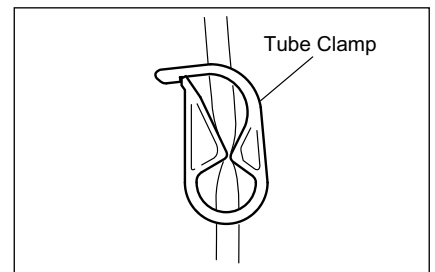

Fig.14
- (1) Close the tube clamp, between the irrigation tube needle and the irrigation pump, as shown in Fig.14